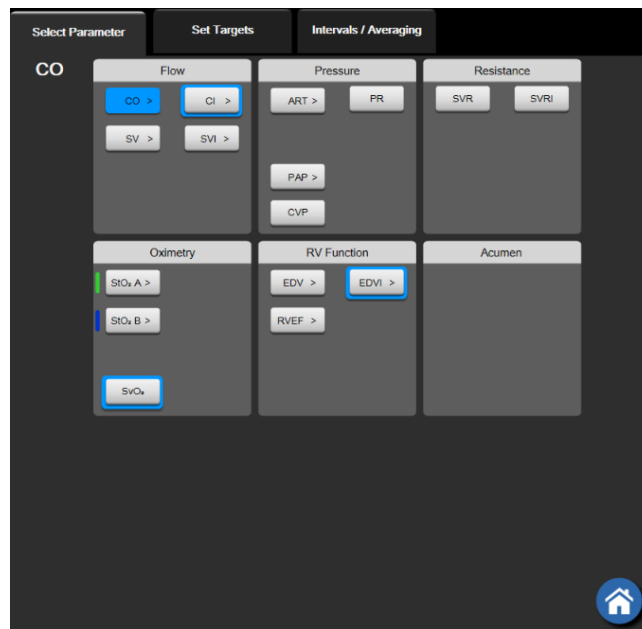

Figure 5-4: Example of key parameter selection tile configuration menu
2. The tile configuration menu will show the selected parameter highlighted in color and other parameters currently being displayed outlined in color. Available parameters appear on the screen without highlights. Figure 5-4 on page 98 shows the parameter selection tab of the tile configuration menu that will appear while selecting continuous parameters and monitoring with the HemoSphere Swan-Ganz module. The appearance of this window while monitoring with other HemoSphere modules or cables varies from what is shown in Figure 5-4 on page 98.
Parameters are organized into categories. The categories available are based on the current monitoring mode. Categories, listed below, are grouped together on the parameter selection configuration menu. See Figure 5-4 on page 98.